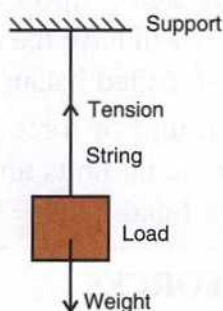

Fig. 3.14 Force of tension as a contact force
- c) The force of tension in a string when a load is suspended from it (Fig. 3.14).